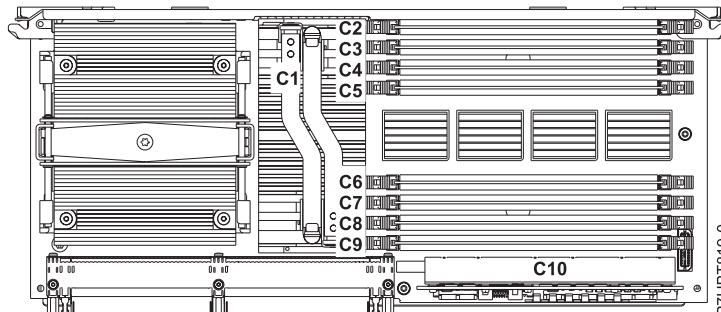

Figure 1. Memory module slot locations in the processor assembly
9. Determine the slots in which the memory modules will be placed. Each system processor assembly has eight memory module slots. See Table 1 on page 3 to ensure that memory modules are balanced on each processor assembly. Plug the memory modules into the slots shown in the table. For the memory module slot locations in the system processor assembly, see Figure 1 on page 3.